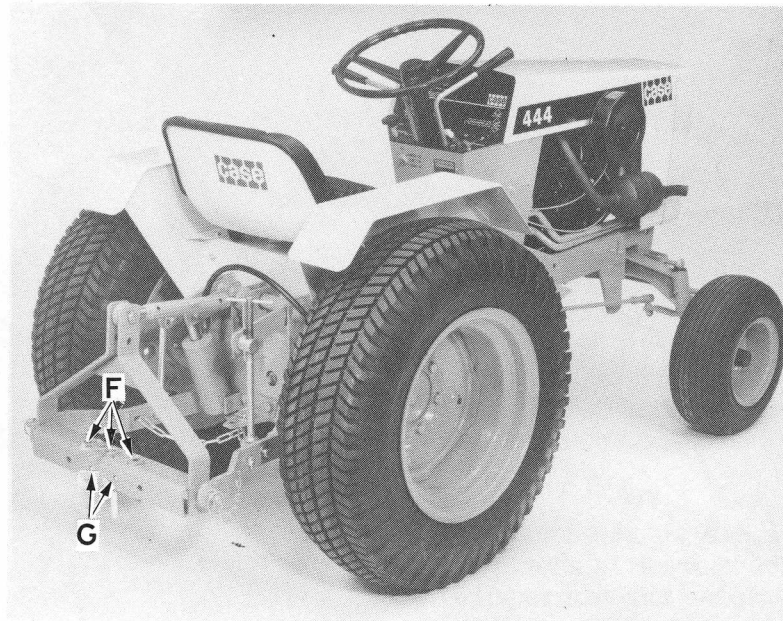

Figure 3. Model H27 Sleeve Adaptor
The Model H27 Sleeve Adaptor, Figure 3, converts the 3-Point Hitch to accept sleeve-type mounted implements.
12. There are three mounting points, Reference "F", Figure 3, on the sleeve adaptor to permit centering or offsetting implements. When mounting a plow, be careful to select the mounting position which will allow the share to cut cleanly to the edge of the previous furrow or to the inside of the right rear wheel.